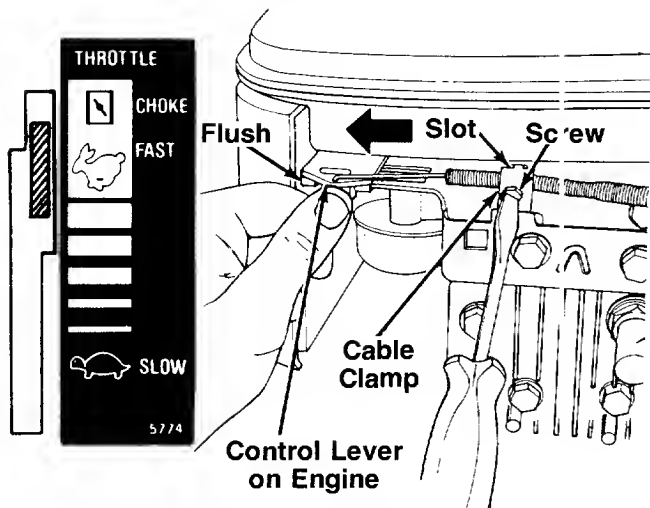

FIGURE 6A.—Models 166R and 176R
1. Push the throttle control lever on the handle all the way forward to CHOKE, then back it off **two "clicks"** (approximately 5/16"). See figure 6A.
2. The throttle control cable is attached to the upper handle. Route the throttle control cable under the lower handle, inside the handle mounting bracket and beneath the catcher panel (Model 176R only). Hook the "Z" end of the throttle control cable into the hole in the control lever on the engine. See figure 6A.
3. Using a 5/16" wrench or nutdriver, remove the screw on the cable clamp shown in figure 6A. Slip the control cable under the clamp. Replace the screw (cable should be above the screw), but do not tighten screw (cable must still move freely beneath the clamp). Make certain the tab on the cable clamp is seated into the slot on the engine.
4. Push the control lever on the engine as far toward the **outside** of the engine as it will go. The edge of the control lever should be flush with the bracket on the engine. See figure 6A. Hold the control lever in this position as you tighten the screw on the cable clamp to secure the throttle cable.